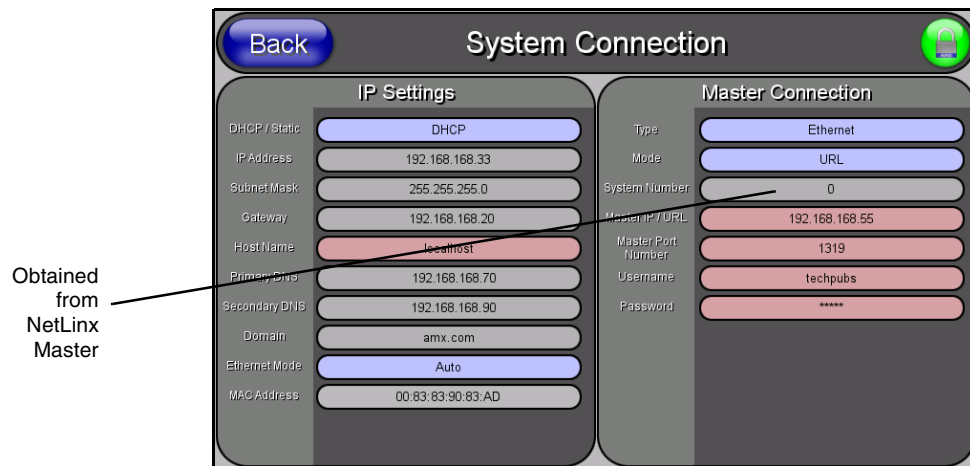

FIG. 39 System Connection page
7. Select **Protected Setup > System Connection** (located on the lower-left) to open the System Connection page (FIG. 39).